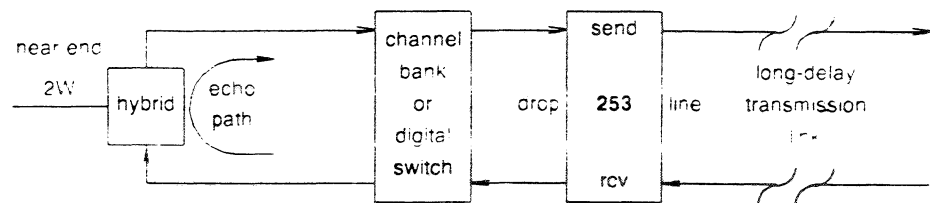

Figure 2. Simplified 2531/2531A Application
- 2.03 A typical 2531/2531A application is shown in figure 2 where the primary source of echoes received at the far end is an impedance mismatch at the hybrid. Signal reflections at the hybrid, were it not for the 2531/2531A, would cause the party at the far end to hear echoes of their own voice. With the 2531/2531A in place, echoes received at the send-in port are cancelled and the remaining (desired) signal is transmitted at the send-out port to the far end, thus eliminating the echo. A canceller at the far end likewise protects the near-end receive channels from echo.